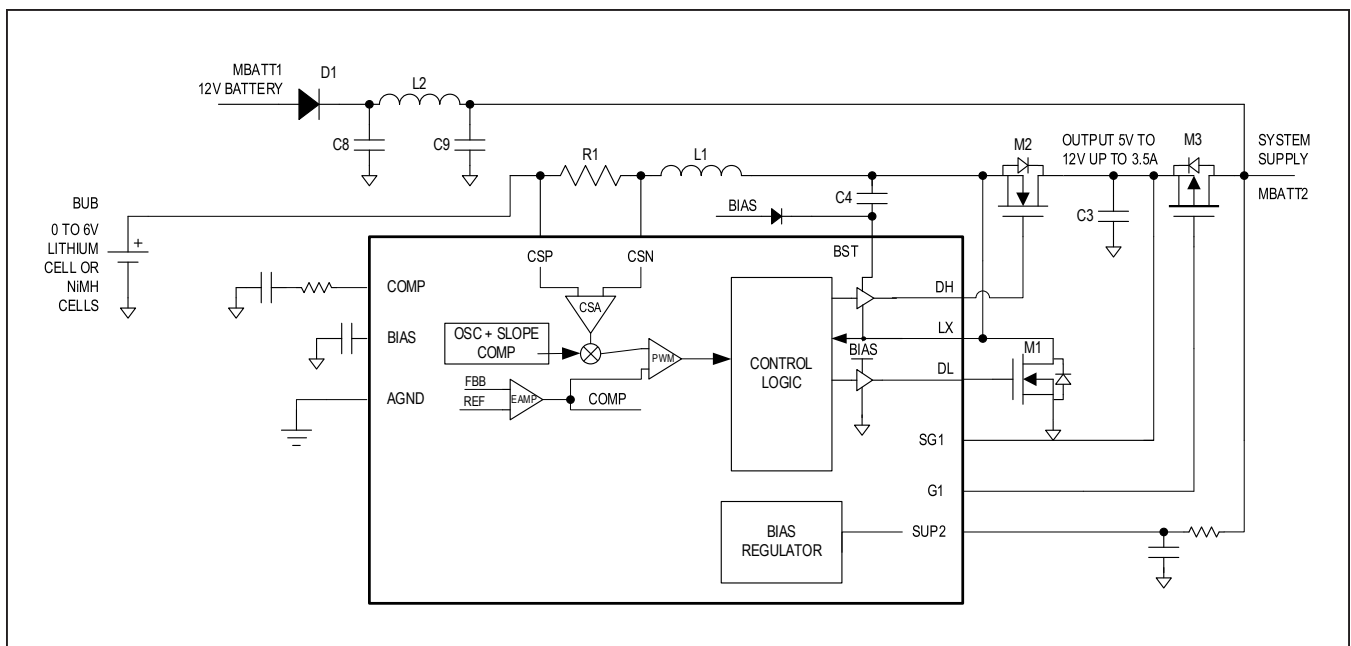

Figure 3. Boost Block Diagram
The ICs have low standby supply current, as mentioned in the *Electrical Characteristics* table, but still allow for 250µs (max) quick turn-on time once V_{SUP2} falls below BST_OV_F. I²C settings are held during the low-standby mode. In this mode, MOSFET M3 (see *Figure 3*) is OFF until the boost's overvoltage (OV) falling threshold triggers, and then it turns ON.